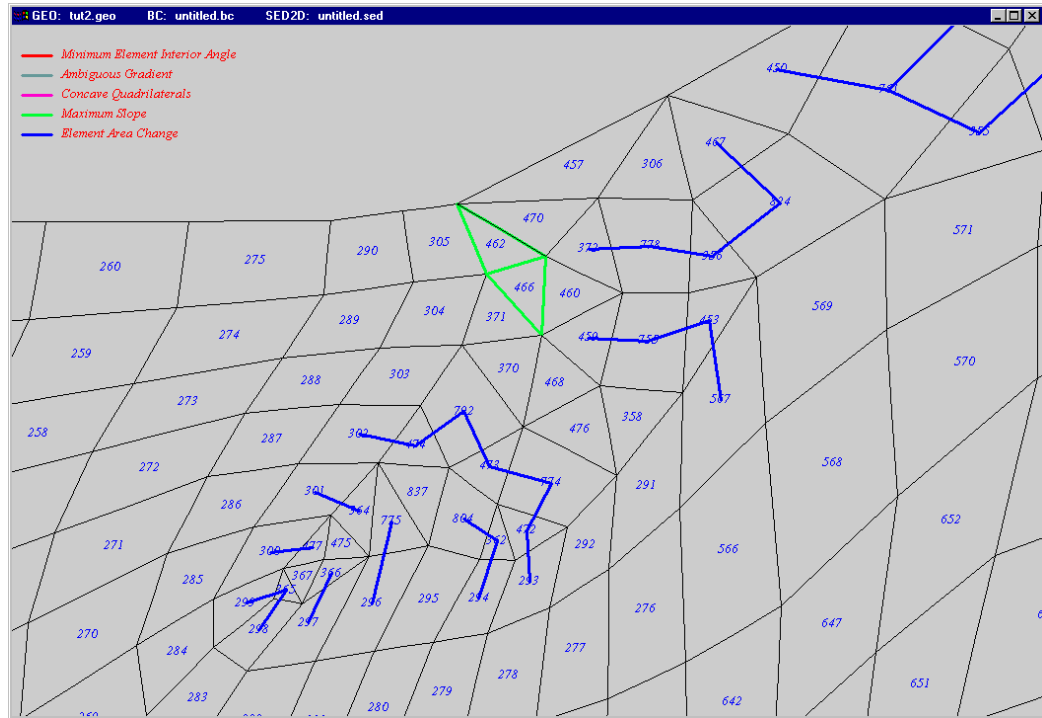

Figure 3-2 Portion of mesh to be edited
3. Select the *Zoom*  tool from the *Toolbox* and zoom in on the top right corner of the mesh by dragging a box over the area seen in Figure 3-2.